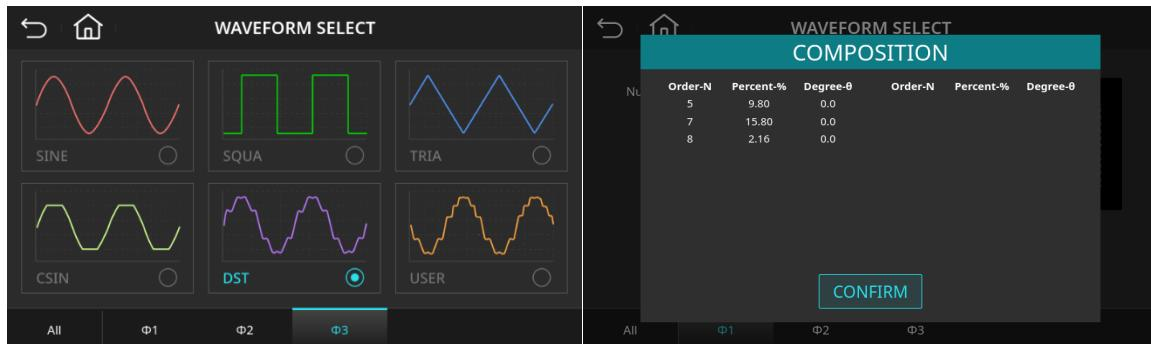

Figure 4-50: Output Waveform Selection Page (Third-Phase Output Waveform (Φ3) Set to Built-in Harmonic (DST1))
6. Return to the Waveform Select page. As shown in Figure 4-50, the third-phase output waveform (Φ3) has been changed to the built-in harmonic waveform (DST1).